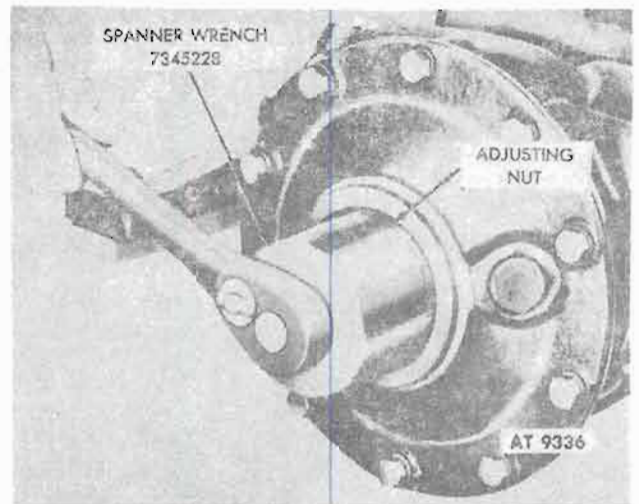

Figure 12-5. Using Spanner Wrench (7345228) to Loosen or Tighten Differential Bearing Adjusting Nuts.
f. Using face spanner wrench 7345228 (fig. 12-5) loosen case bearing adjusting nuts. Do not remove adjusting nuts.
Figure 12-5 is superseded as follows:
f. Using wrench (7345228), tighten nut. Refer to figure 12-5. Tighten nut one notch for used bearings or two notches for new bearings, using housing mark as reference point (fig. 12-52).